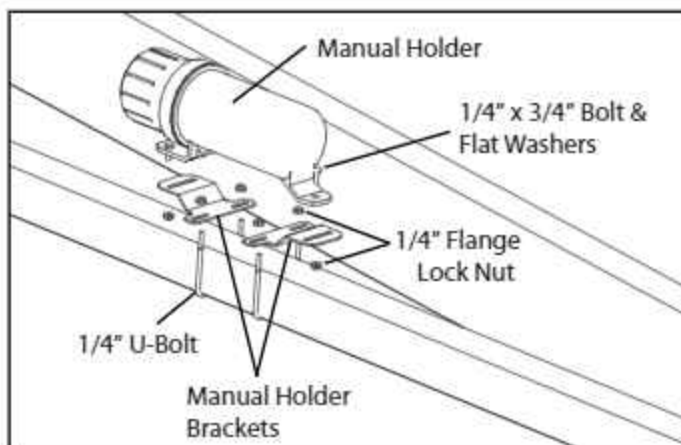

FIG. 3-45. Manual Holder Installation
10. Mount the Plastic Manual Holder on the right Axle Arm using two Manual Holder Brackets, two 1/4" U-bolts, three 1/4" x 3/4" bolts, flat washers and seven 1/4" flange lock nuts. See Fig. 3-45.